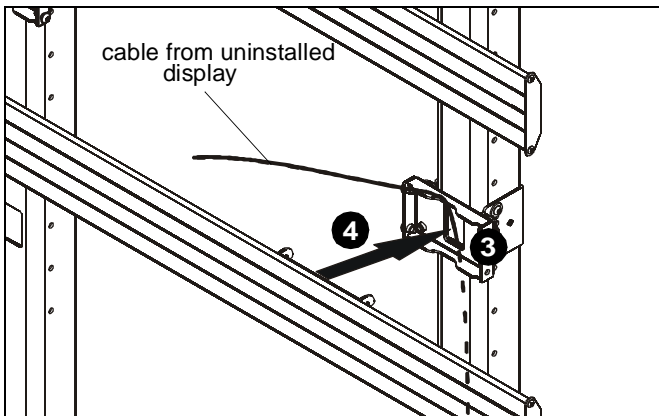

Figure 19
3. If rails needed to be installed on top of cable management holes, cables may be routed through quick connect bases (Q) prior to the rails being installed. (See Figure 19)
4. Install rails according to Rails Installation section making sure cable is routed through cable opening on quick connect base (Q). (See Figure 19)